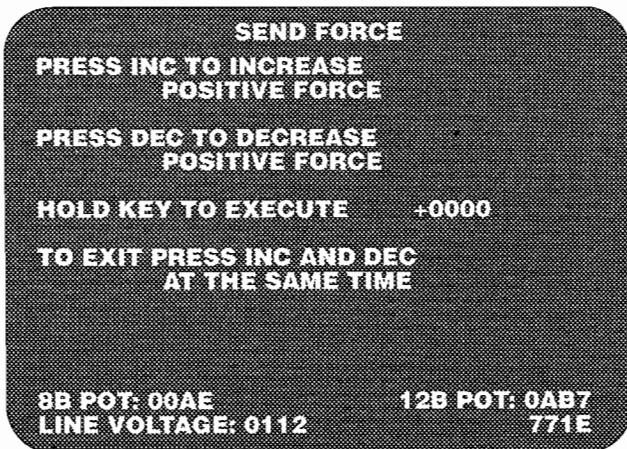

Figure 2-21 Send Force Screen
- *Steering Wheel* has a submenu explained below and shown in Figure 2-21.
Use these item if you believe you have a problem with the steering assembly or the steering motor amplifier PCB The screen is shown in Figure 2-21.
- *Send Force* sends a steady force to the Motor Amplifier PCB. See Figure 2-21.
- *Sine Wave* sends a sine wave force to the Motor Amplifier PCB. This screen is similar to Figure 2-21.
- *Square Wave* sends a square wave force to the Motor Amplifier PCB. This screen is similar to Figure 2-21.
- *Triangle Wave* sends a triangle wave force to the Motor Amplifier PCB. This screen is similar to Figure 2-21.